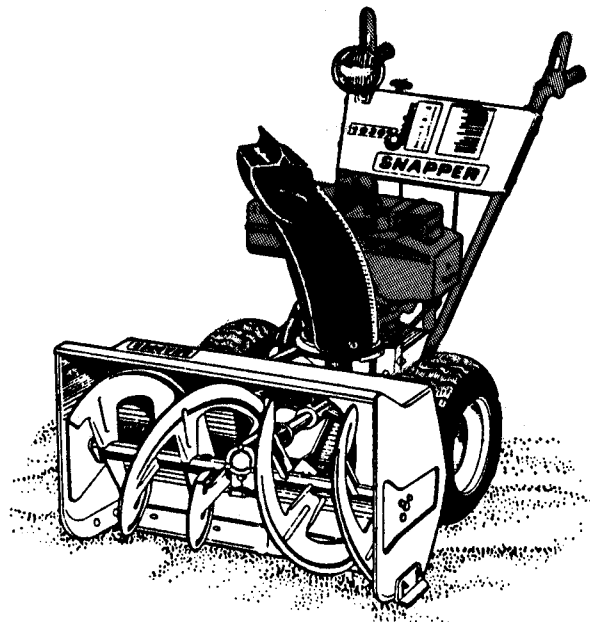

**FIGURE 10
If the clutch controls need readjusting, turn engine off. Disconnect spark plug wire! Refer to FIG. 10. Reset as follows:
(B) With the traction clutch held down, have assistant hold the blower clutch control against handle. The ferrule (shown in the Inset of FIG. 10) must be located about 1/16" (.060" exact) above the hook of the cam lock. To adjust, loosen the 3 fasteners on the cam lock bracket and slide the bracket up or down until the setting is correct, then retighten the 3 fasteners on the cam lock bracket. Release controls.